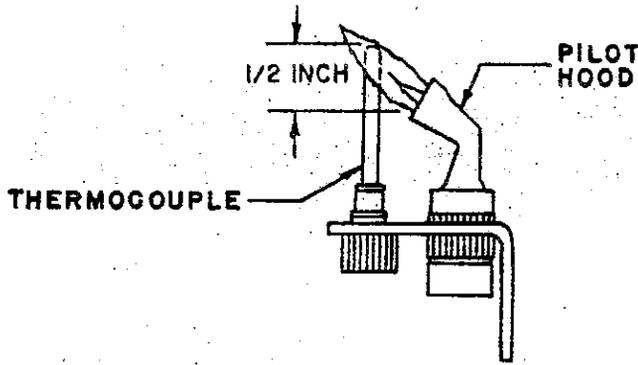

FIGURE 8
(b) **PILOT ADJUSTMENT:** The pilot flame should always envelop approximately one-half inch of the thermocouple tip. If it does not, adjustment of the pilot gas flow will be necessary and can be made with the adjusting needle valve supplied on the control valve. See Figures 8 and 10.
3. Visually check the burner and pilot flame before each heating season. (See Figures 8 & 9 for details.) Remove the burner if required to clean rust and foreign matter from the slots and obstructions such as cob webs and mud daubers from the venturi opening. Brush the surface of the burner head to clean the burner ports. Use a bottle brush or equivalent to clean the venturi.